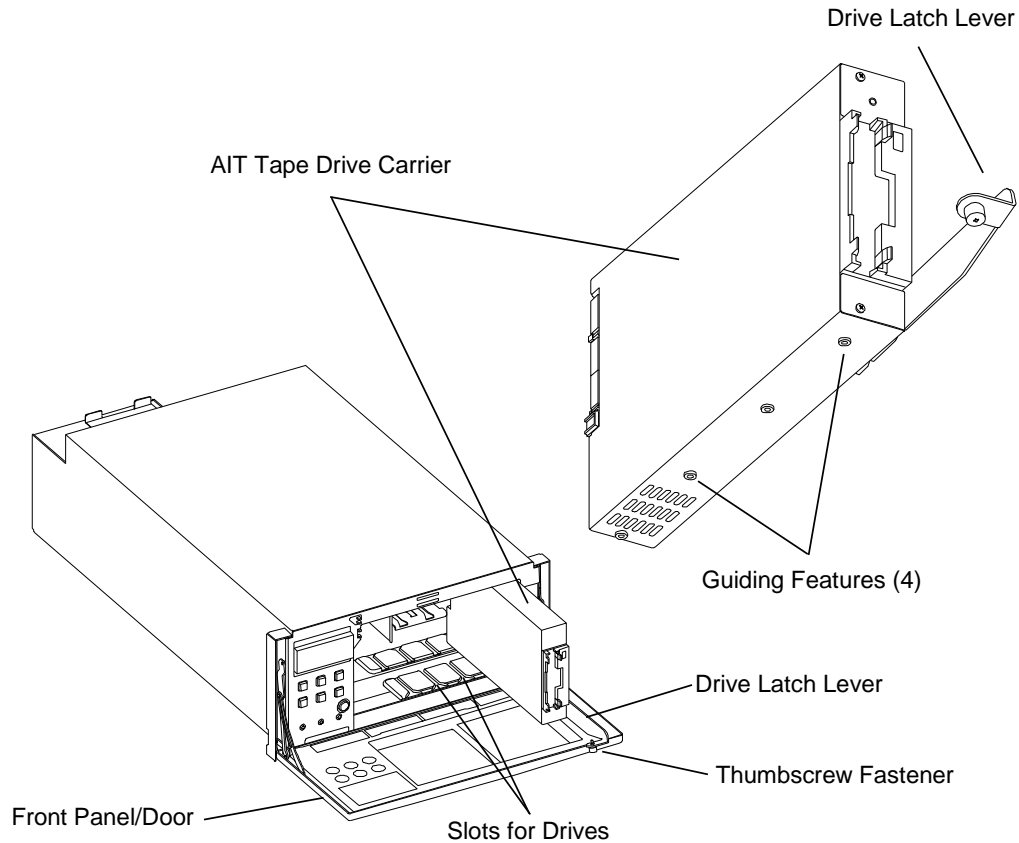

Figure 7-20 Drive Carrier Orientation – AIT type shown
2. Orient the Tape Drive Assembly as shown in Figure 7-20. Make sure that the guiding features located on the bottom of the drive are aligned with the correct slot in the RLS.